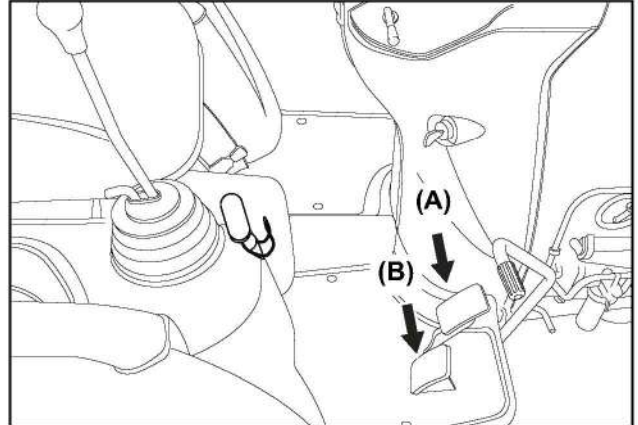

Fig 7-5
1. Remove foot from the forward and reverse drive pedal. (Fig 7-5)